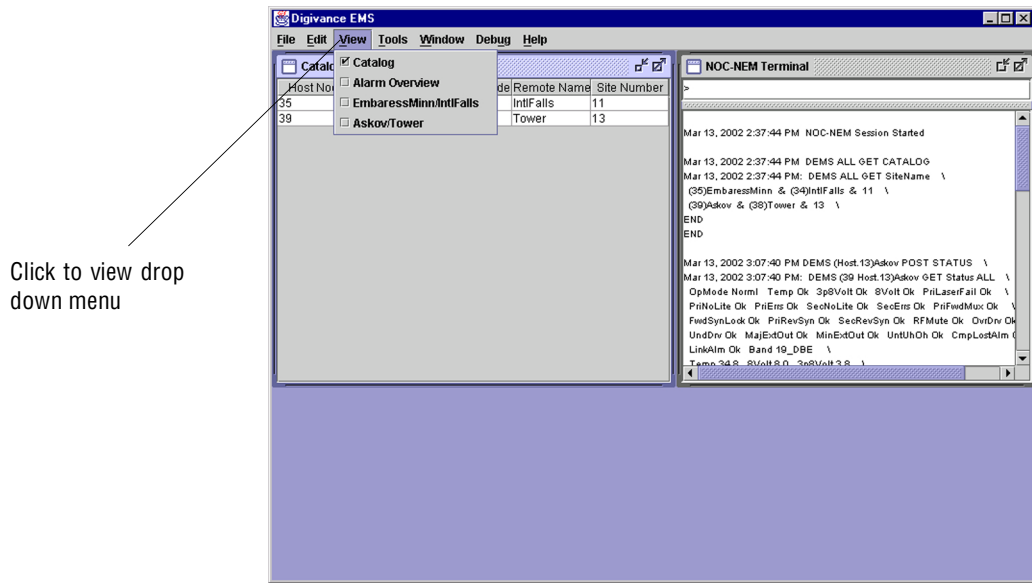

Figure 4-1. Digivance Element Management System Main Window
8. Start up the EMS Version 2.0 software program. The EMS main window will open as shown in Figure 4-1. Note: The EMS software should be installed on a PC-type computer and the PC's COM port should be configured to interface with the HU. For information about installing the EMS software and configuring the PC's COM port, refer to the Digivance Element Management System Software User Manual (ADCP-75-125).